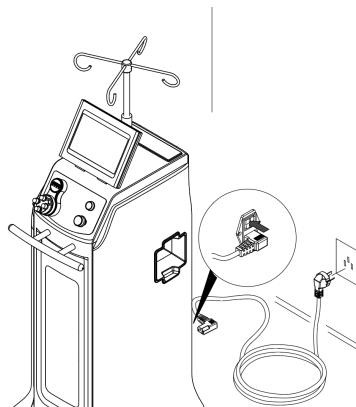

Figure 40 To Connect Power
1. Verify the rover is connected to facility power and Push the power switch to the ON position (Figure 40).
4. Attach suction tubing between the hospital wall suction regulator and the auxiliary suction ports on the rover (Figure 40).